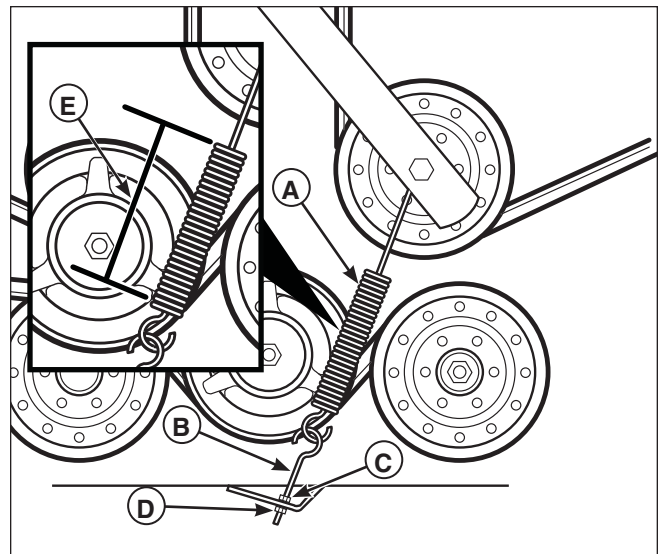

Figure 54. Mower Belt Idler Spring Length
3. Use the Mower Belt Idler Spring Length chart to determine the correct spring length (E, Figure 54).
4. Measure the coil length of the mower belt tensioner spring (A,). The measurement should equal the measurement as designated in the chart. If the measurement does not equal the measurement as designated in the chart, adjust the anchor eyebolt (B).